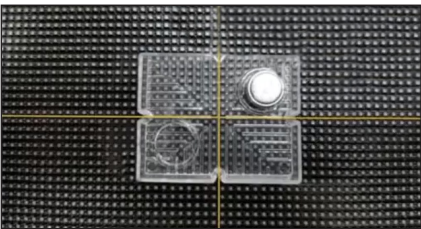

Figure 44: Place Jig
- 3. Place the first supplied jig (Daktronics part number TH-3926637) two rows below the center line (CL) (starting point) on the left side of the display. Align the jig with the corners of the tiles to be adjusted and snap the jig into place on the display face. Refer to **Figure 44**.